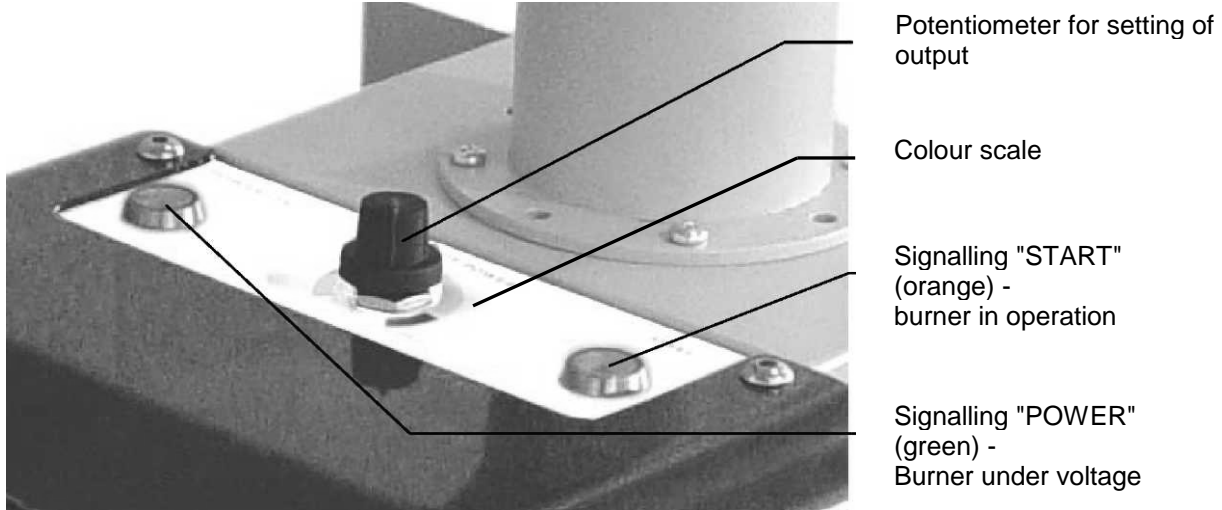
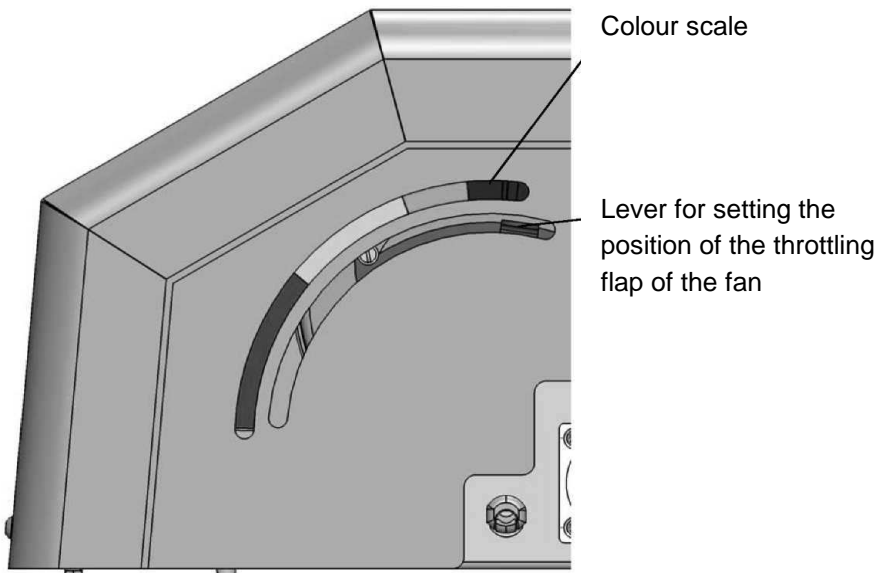

Fig. No.22
Fig. No.23
- By pressing the switch "START OF BURNER" on the control box (see Fig no. 3) the burner is put into operation. Also operational thermostat and the room instrument have to be switched. The signalling of "START" (see Fig no. 22) lights up on the burner drum.
Adjustment of the burner output is done by means of setting the position of the potentiometer of heat output (i.e. the amount of supplied fuel) and the amount of air flow that is controlled by means of a throttle flap of the fan into the burner. **Set the position of the lever of throttle flap of the fan on the colour scale (see Fig. no. 23) to the same colour as the setting of potentiometer of heat output (see Fig no. 22).**